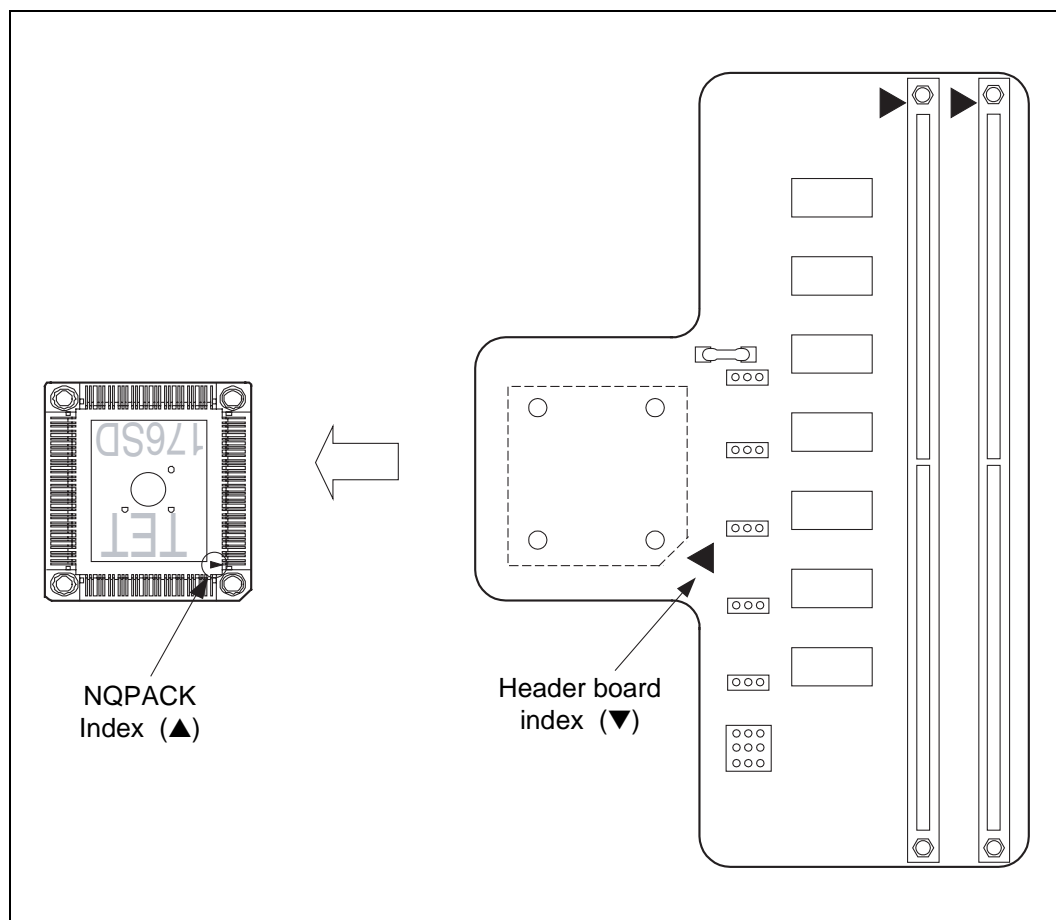

Figure 3.1 Index Positions
1. To connect the header board to the user system, align the index mark (▲) on the header board with pin 1 on the NQPACK mounted on the user system. Pin 1 on the NQPACK is also indicated by an index mark (▲) (See Figure 3.1) .